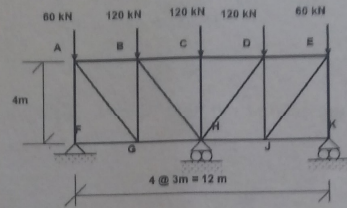

Fig. 5
- a. Calculate the member forces (tension or compression) in members **BH**, **GH** and **BC** of the following truss systems (fig 5). Use method of consistent deformations and standard notations and signs. Take axial rigidity 'AE' same for all members.